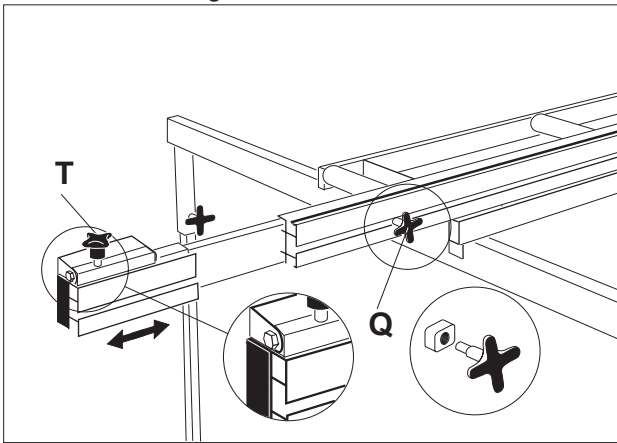

Fig. 8
- Attach the locking screw **Q** to the telescopic extension (Fig. 8).
- Mount the length stop **T** edge-to-edge with the aluminium end of the telescopic extension (Figs. 8 and 9).
The saw blade must be in low position before adjusting bevel angle. This adjustment is made by loosening the tilt locking clamp and pressing the tilt preset. The saw blade may now be tilted to any bevel angle between 0° and 45° (Fig. 8), with the angle indicated on the curved scale. Tighten the tilt locking clamp when finished.
- Adjust bevel angle if desired, as described in section 4.3 (Fig. 8 and 13).